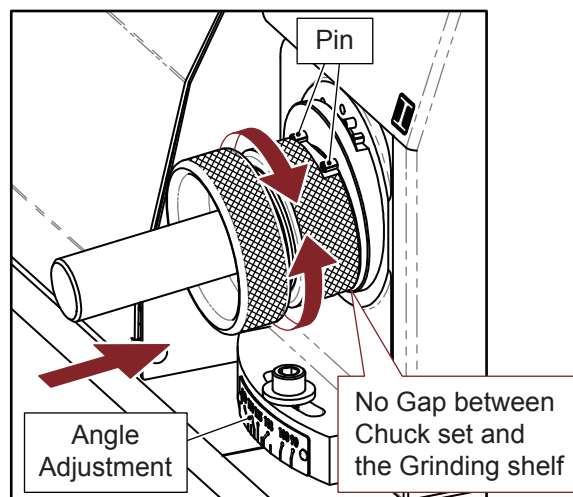
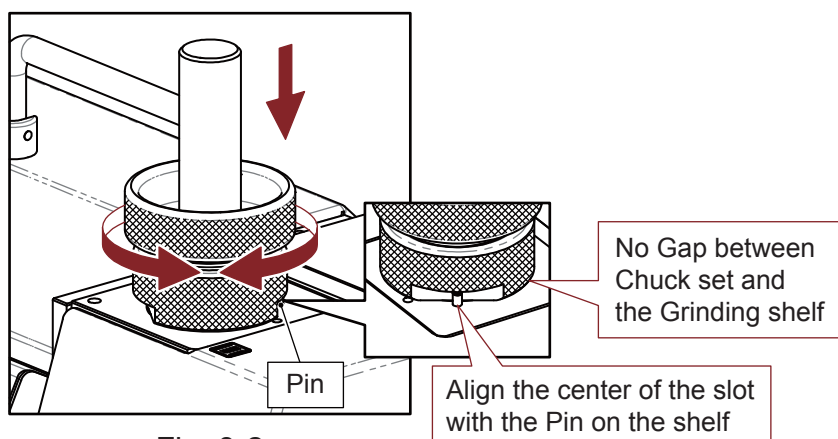

Fig. 8-1
Fig. 8-2
1. Cutting Lip Grinding (Fig. 8-1)
- ① Insert the Chuck set into the Shelf (I), the slot of clamping nut must fit with the two pins of the shelf, push the Chuck set gently and turn it clockwise and counterclockwise until the grinding noise stops.
- ② Take the Chuck set out, turn it to the other side and grind the drill in the same way.
2. Web Thinning Grinding (Fig. 8-2)
- ※ Align the center part of the clamping nut slot with the pin on the Shelf (II) when putting in or taking out the Chuck set.
- ① Insert the Chuck set into the Shelf (II), and grind the drill by turning clockwise and counterclockwise until the grinding noise stops.
- ① Check the condition of position block. Please contact with your agent for replacement.
- ② While operating, check chuck set is tightly connect to any of the grinding shelf without gap. (See page 13, Fig 8-1 and Fig 8-2 ; page 14, Fig 8-3)
- ③ Check the drill is fastened tightly by chuck set. (See page 11 “3. Drill Positioning”)
- ④ Check the point angle of the drill complies with the point angle adjustment set.
- ① Check the clearance of chuck set (collet / collet holder / clamping nuts).
- ② Check the drill, Helix of a drill has burr or damaged, the parts should be cut off.
- ③ Check the drill; it can not be used when the drill is deformed.
- ④ While grinding, do not apply too much pressure to the shelf.
- ⑤ Check the screw of point angle adjustment set is fastened enough.
- ⑥ Check the contact surface of grinding shelf and chuck set that is clean without scraps.
- ⑦ Check the margin of the drill, damaged margin should be cut off.
- ⑧ While grinding, make sure to fully turn the chuck set to the right and left.
- ① For grinding the web thickness of a drill, when inserting or taking out the chuck set from web thinning shelf, make sure the pin is in the middle of the slot. (See page 13, Fig 8-2)
- ② While changing grinding wheel, the flange and the center hole of grinding wheel should be kept clean.
- ③ Make sure the flank of a drill is sharpened completely, uncompleted grinding will cause problem for chisel.
- ④ While grinding, turn the chuck set clockwise and counterclockwise to the end on the grinding shelf.
- ⑤ Check the clearance of chuck set.
- ⑥ Check the clearance of web thinning shelf.
- ⑦ While grinding, do not use too over forcing power to push.
- ⑧ Check the condition of the drill, if the drill is deformed, it can't be used.
- ⑨ Check the drill, Helix of a drill has burr or damaged, the part should be cut off.